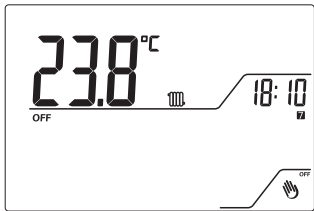

Fig.21
5.4.1 Press for 4  seconds to switch-of programmable thermostat. Now the FUNCTION OFF is activated. It can be activated with or without Frost Protection. It is important to avoid damage caused by low temperatures Fig.21 shows that the system is OFF with Frost Protection function active.